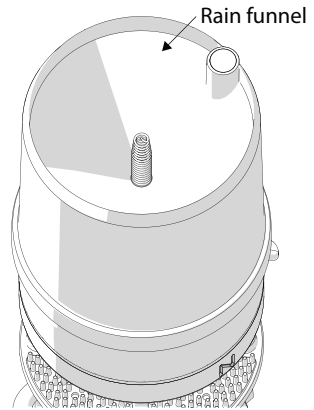

Figure 16 Rain funnel and pyranometer
- a. Rain funnel (Figure 16)
- b. Pyranometer (Figure 16)